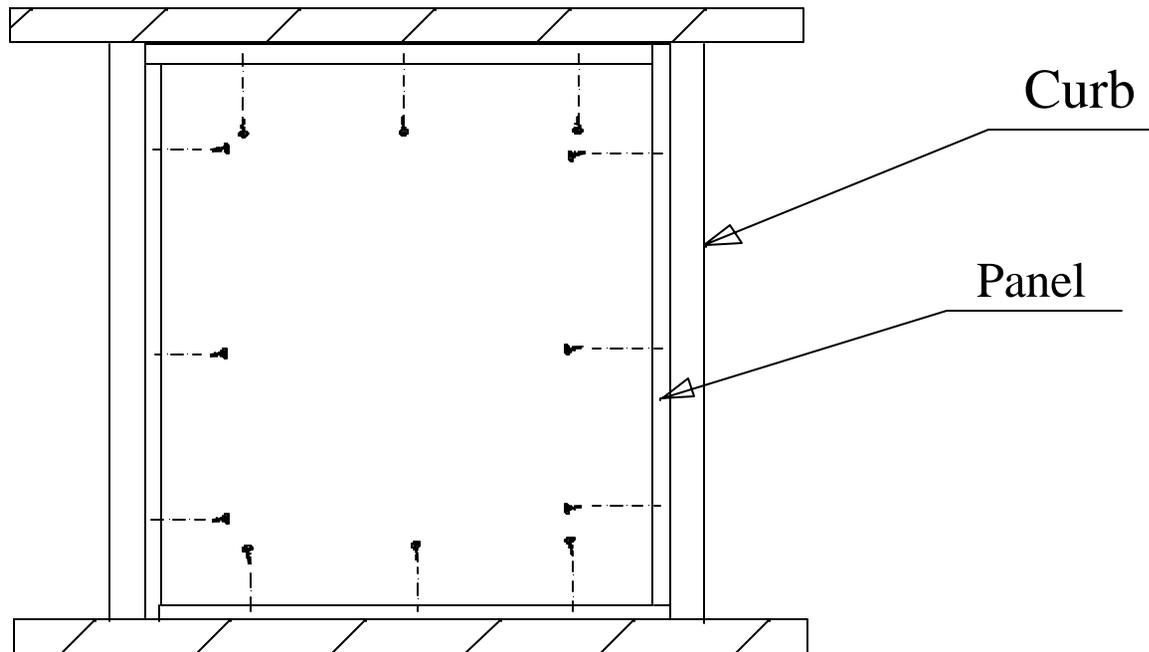

Fig. 8
5. Lower down until SkyLite is flush with the curb. Screw in 3 screws into each panel into the curb. After securing SkyLite, remove lifting bracket assembly. (Fig. 8)